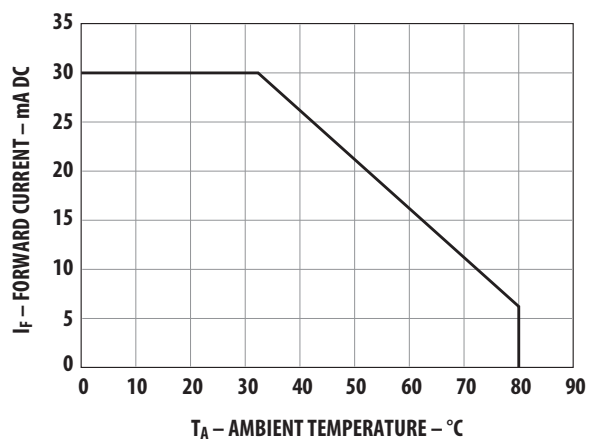

Figure 6. Maximum DC forward current vs. ambient temperature. Derating based on T_J max. = 115°C
- Derate linearly from 50°C as shown in Figure 6.